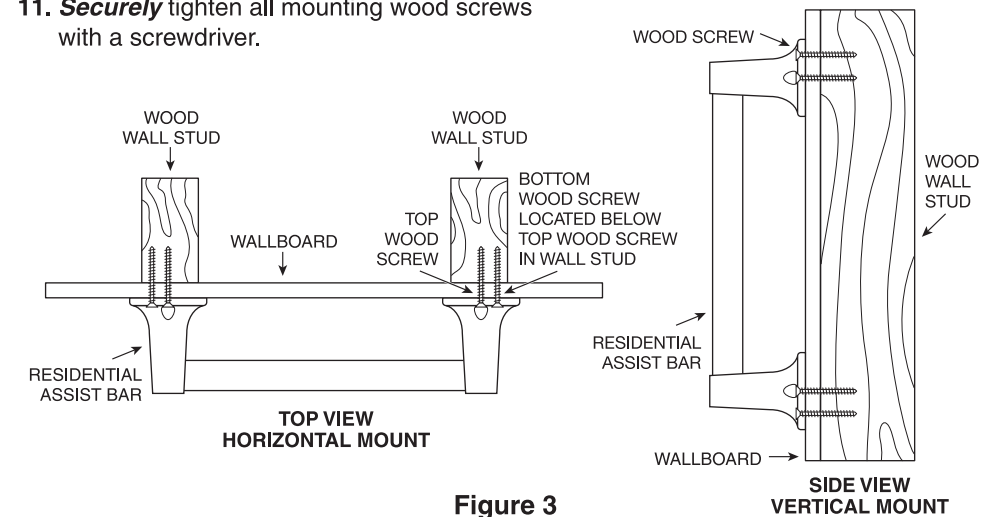

Figure 3
9. Insert the wood screws provided into one end of the Residential Assist Bar. Screw into wall and wall stud (**HAND TIGHTEN ONLY**) (see Figure 3).